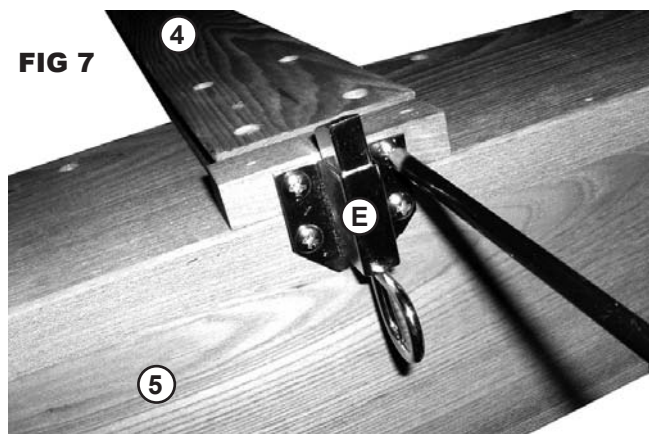

FIG 7
STEP 7. Attach Loop Mechanism (E) to Material Tray (5) using the four 3 X 12mm screws. Secure with Phillips Screwdriver (provided) See FIG 7.
NOTE: Make sure the Loop Mechanism is in the proper position as shown in FIG 7. This will allow for proper adjustments when moving the material tray up or down the Ratchet Column.